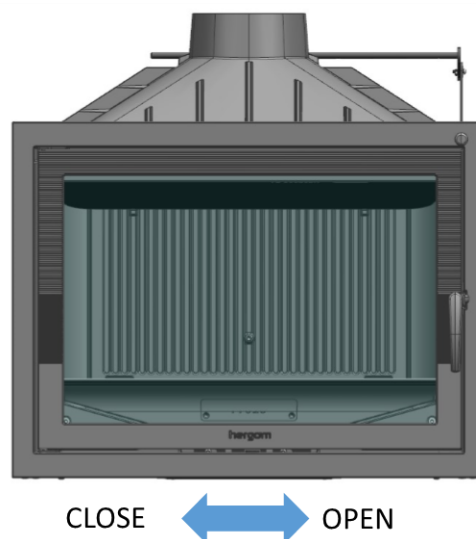

FIG. 4
The intermediate position is usually the ideal adjustment, depending on the quality of the draw of the chimney installed and on the type of fuel being used (hard or soft wood) (Fig. 4).
1. Fully open the appliance's air control valve (Fig. 4).